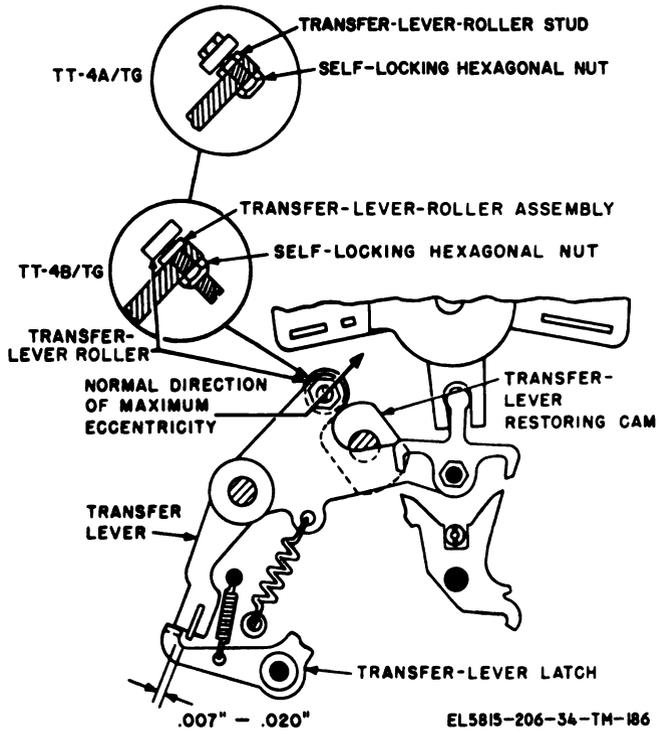

Figure 3-114. Transfer-lever roller stud adjustment.
b. Adjustment. Position the Y-levers for either R or Y code combination and pull the transfer-lever latch downward (fig. 3-114). Turn the motor by hand until the locking-bail spring pulls the code-ring locking bail against the code rings. Loosen the mounting screws and position the code-ring locking bail until the requirement is met. Tighten the mounting screws and recheck the clearances.
3-147. Transfer-Lever Roller-Stud Adjustment (fig. 3-114)